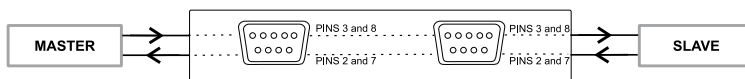

Figure 5: Bi-directional Signals I
- By using a pair of conductors, each signal travels in both directions via a balanced line between Master / Slave devices, as Figure 5 illustrates: